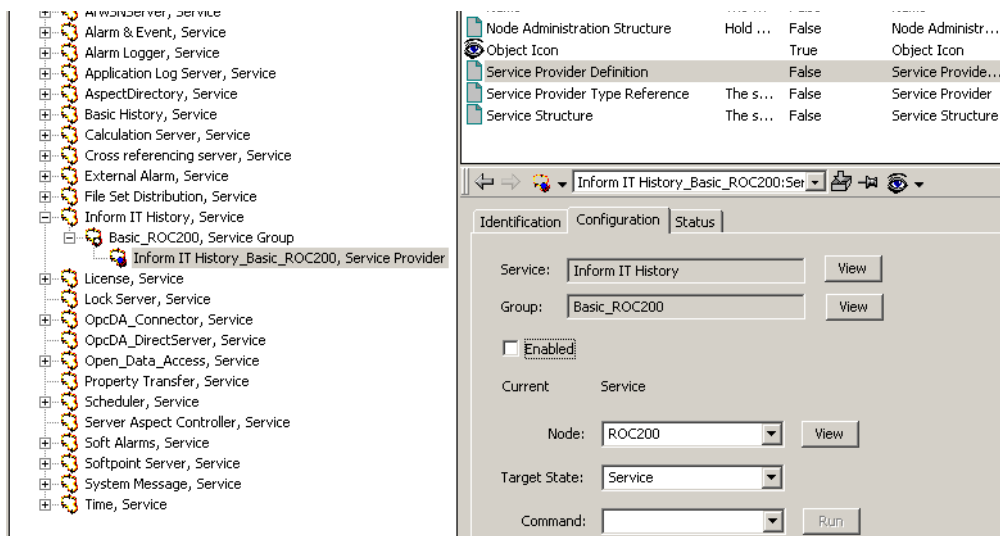

Figure 301. Stopping the Inform IT History Service Provider
3. Stop the Inform IT History Service Provider. To do this (reference Figure 301):
10. Start the Inform IT History Service Provider. To do this (reference Figure 301):